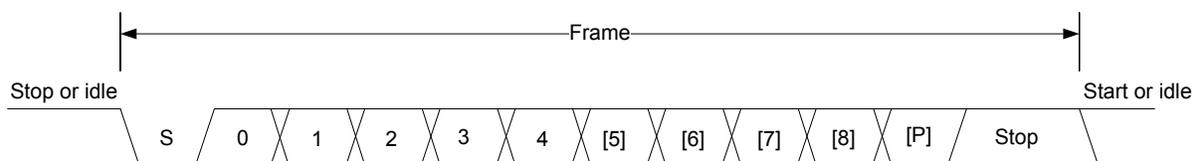

Figure 19.2. USART Asynchronous Frame Format
The frame format used in asynchronous mode consists of a set of data bits in addition to bits for synchronization and optionally a parity bit for error checking. A frame starts with one start-bit (S), where the line is driven low for one bit-period. This signals the start of a frame, and is used for synchronization. Following the start bit are 4 to 16 data bits and an optional parity bit. Finally, a number of stop-bits, where the line is driven high, end the frame. An example frame is shown in Figure 19.2 USART Asynchronous Frame Format on page 532.